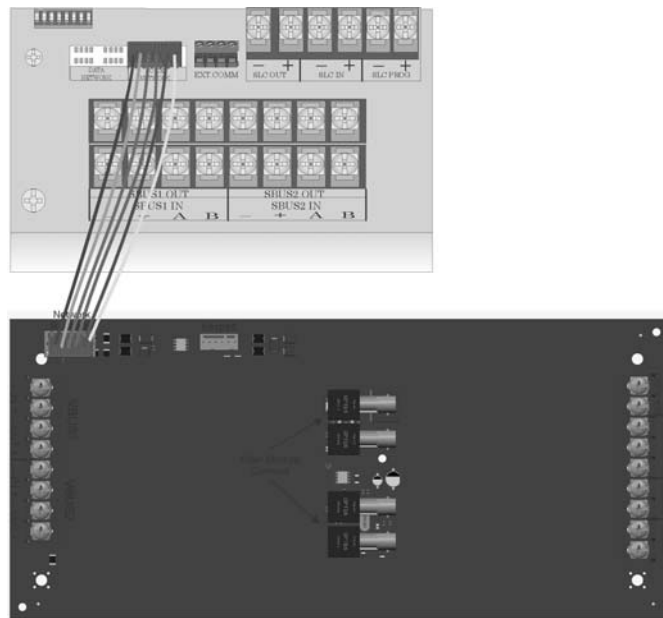

Figure 4-16 Wiring Harness Connection for NVCM to IFP-2100ECS
6. For IFP-2100ECS connect one end of the wiring harness (PN 130398 supplied) to the ECS-EMG and the other end to the P4 connector on the NVCM as shown in Figure 4-16. If two ECS-SW24's are used, connect one ECS-SW24 to the other ECS-SW24 as shown in Figure 4-17.